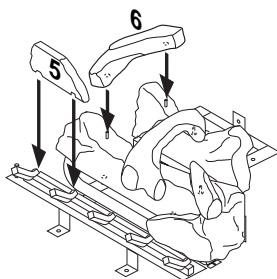

Figure 48 - Installing Logs No. 5 and No. 6
5. Place log #5 (base log) onto front left part of grate making sure notches fit over prongs of grate. See Figure 48, page 26.
6. Place log #6 (left log) onto two pins on left side of back and front log. See Figure 48.